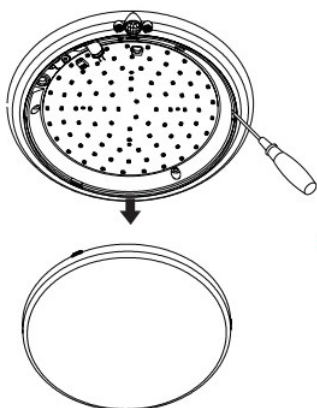

Fig.2
- Step2 Remove the lampshade before you install the lamp. (as **Fig.2**)